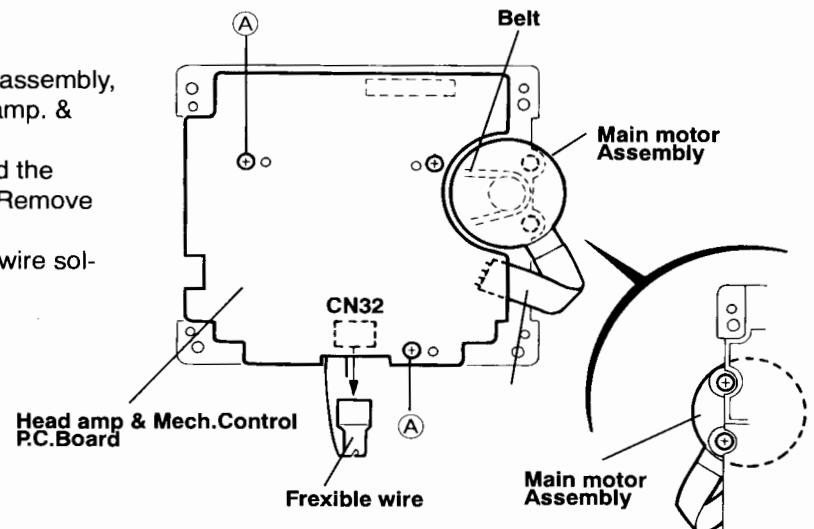
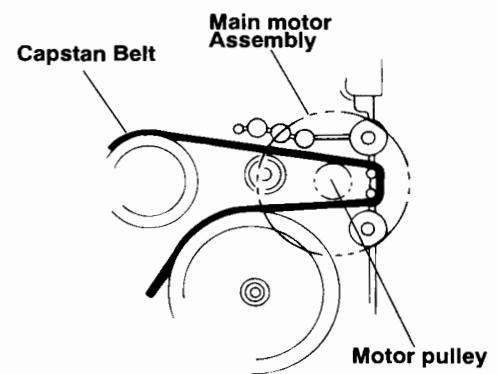
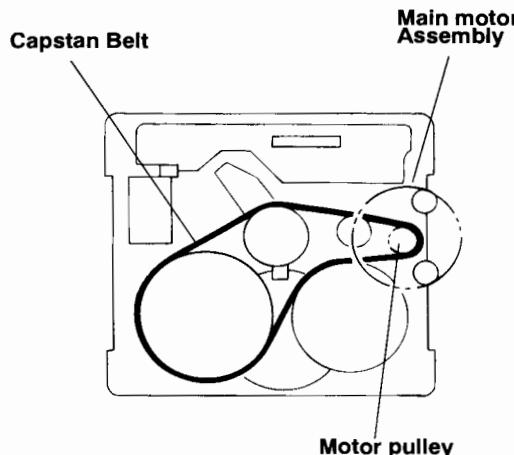
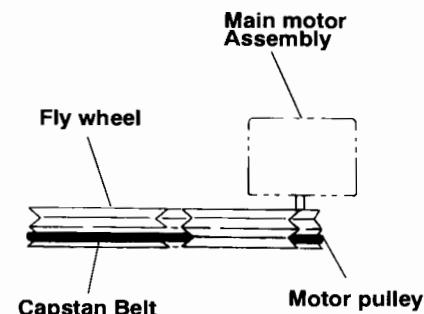

Fig.4
Fig.5
Fig.6
Fig.7
■ Headamp & Control P.C. Boards Removal (See Fig.4)
2. After turning over the cassette mechanism assembly, remove the 3 screws (A) retaining the head amp. & mechanism control P.C. Board.
■ Main motor Removal (See Fig.4.Fig.5Fig6.Fig.7)
1. Remove the 2 screws (B) retaining the main motor assembly.(See Fig.4.Fig.5)
2. While raising the main motor,remove the main motor belt from the motor pulley.(See Fig.5)
Caution: Be sure to handle the capstan belt so carefully that that this belt will not be stained by grease and other foreign matter.Moreover, these belts should be hanged while referring to the capstan belt hanging method in Fig.6.Fig.7.